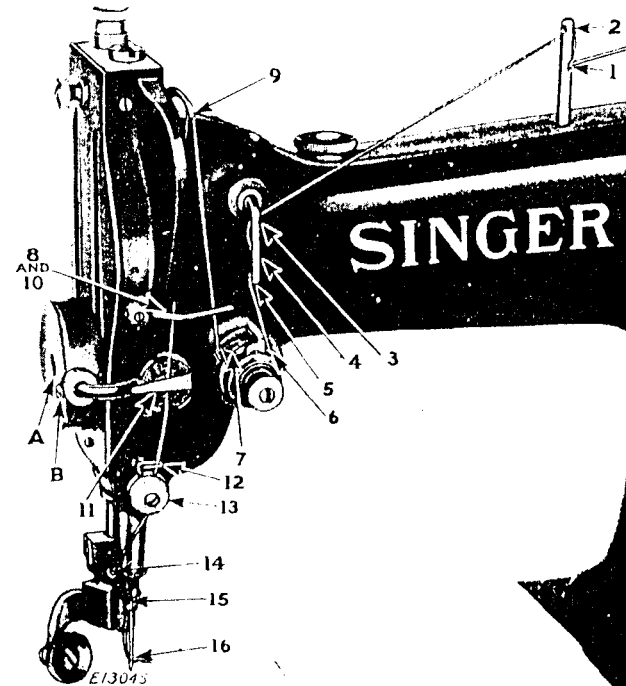

Fig. 12.
To insure satisfactory results, Singer Thread Lubricant should be used in the thread lubricator which is attached to the face plate. When replenishing the lubricant supply, fill the reservoir to about 1/8 inch below the filler hole (A, Fig. 12).
The amount of lubrication of the thread is controlled by loosening the clamp screw (B, Fig. 12) and raising or lowering the felt pad holder (11) above or below the level of the lubricant.